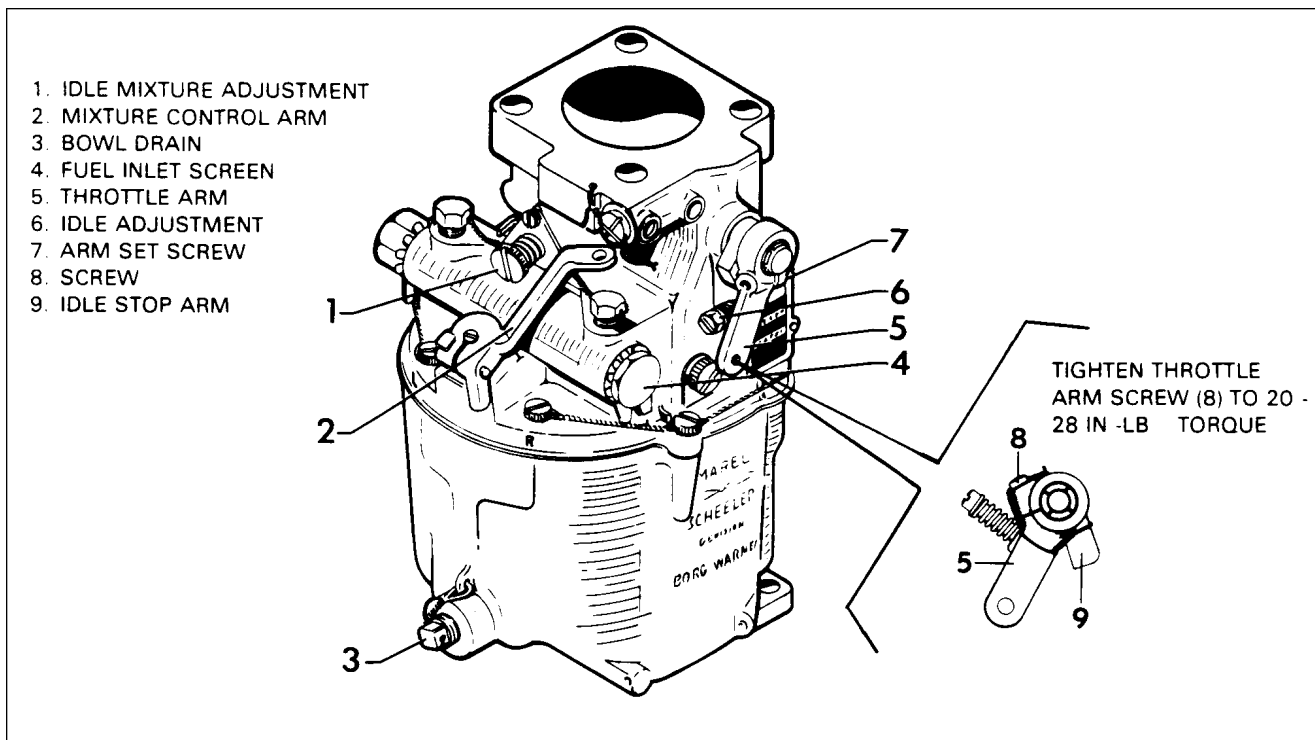

Figure 73-1. Carburetor
4. Clean fuel inlet screen. (Refer to Figure 73-1.)
5. Use 0.032 inch diameter safety wire, tie wire to idle stop lever, and continue as shown in Figure 73-1.
C. ADJUSTMENT OF IDLE MIXTURE (Refer to Figure 73-1)
D. ADJUSTMENT OF IDLE SPEED (Refer to Figure 73-1)